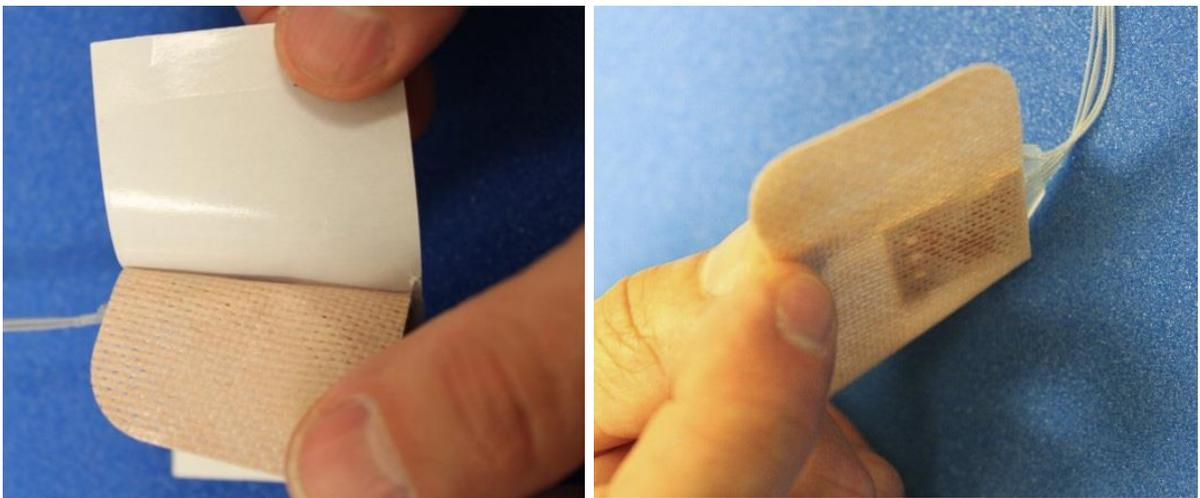

Figure 19.
6. Carefully remove the paper backing from a new connector holder. Make sure you **Do NOT pull on the exiting electrode wires** (Figure 19).